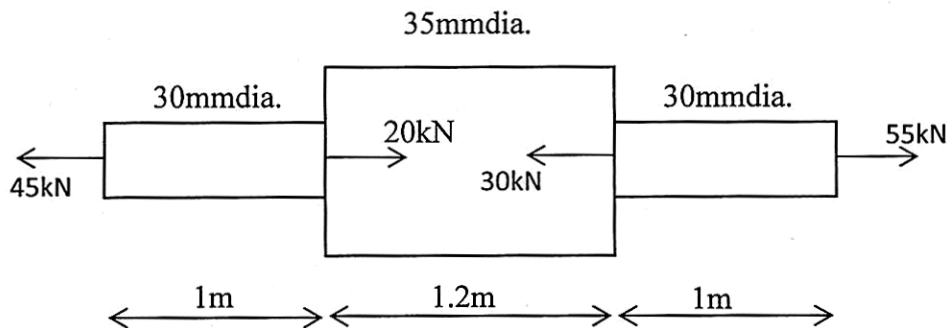

Fig. 1
1. (a) A steel bar of variable section is subjected to forces as shown in Fig. 1. Taking $EI = 205 \text{ kPa}$, determine the total elongation : [6]